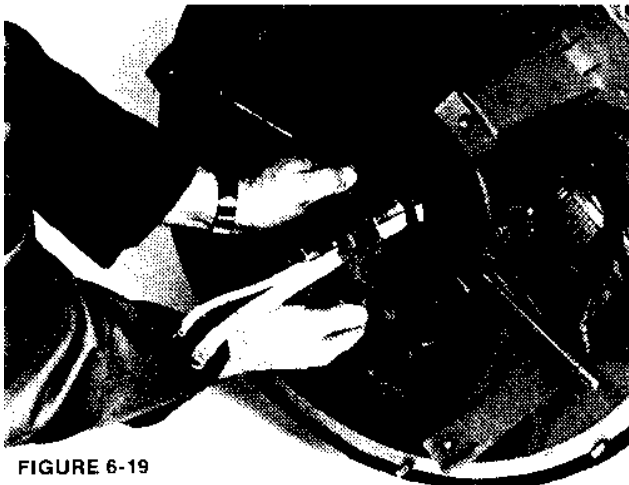

FIGURE 6-19
3. Slide the PMG rotor off of the shaft. (Figure 6-19.)